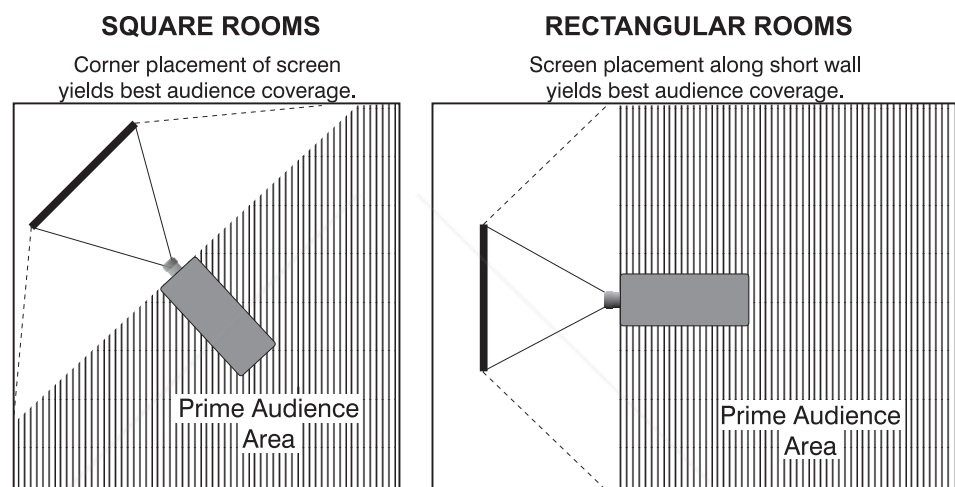

Figure 2-8. Screen Locations for Maximum Audience Coverage
- When laying out the projection room, consider positioning the projector and screen in a manner which will achieve maximum audience coverage and space efficiency. For example, placing the screen along the larger wall in a rectangular room will reduce audience coverage. Figure 2-8 shows two examples of how audience coverage is maximized.